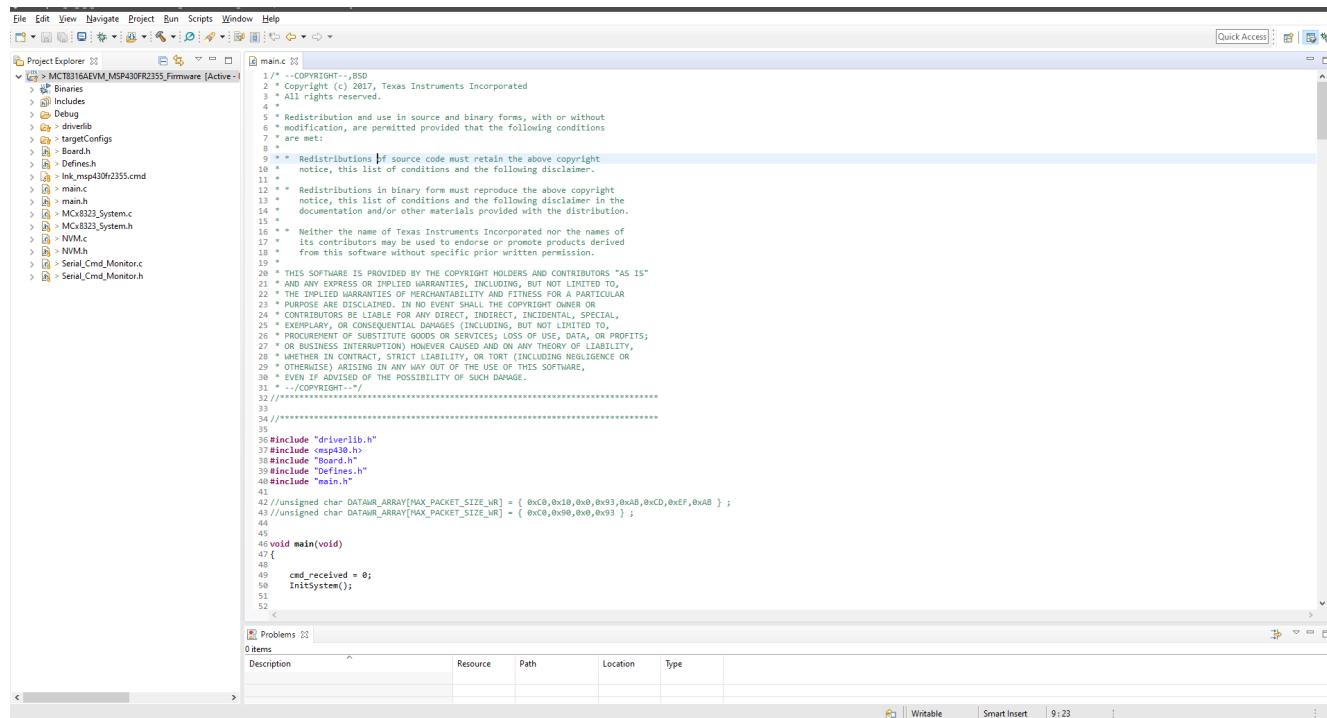

Figure 7-1. MSP430FR2355 Interface Firmware Code in Code Composer Studio
8. Import the project “MCT8316AEVM_MSP430FR2355_Firmware_GUI” into your workspace as shown in Figure 7-1.